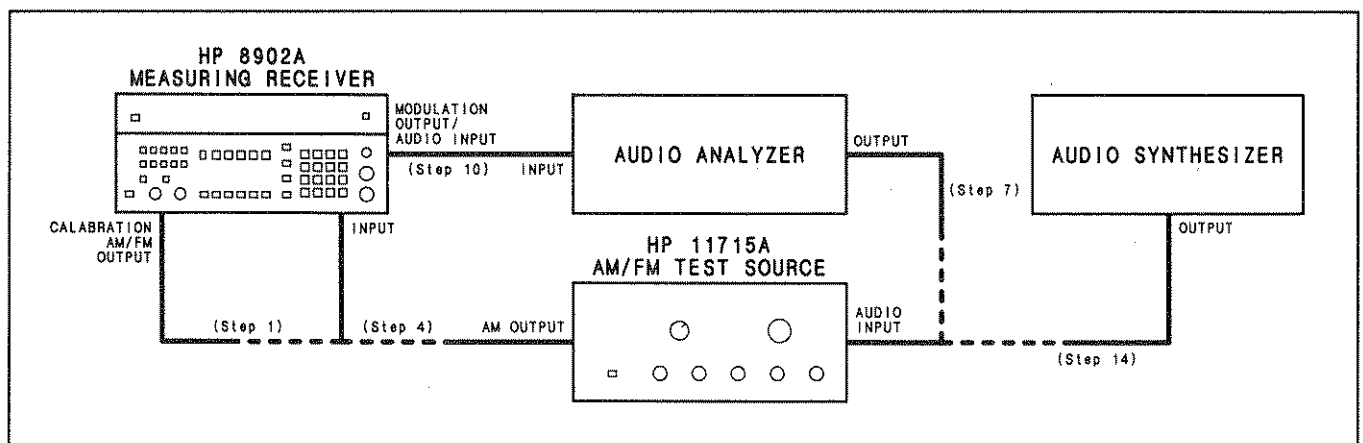

Figure 4-1. AM Performance Test Setup
- On the AM/FM test source, set the test mode switch to AM. Connect the test source AM output to the Measuring Receiver's INPUT. (See Figure 4-1. Nothing should be connected to the test source's audio input.)
- Set the audio analyzer's oscillator to 20 kHz. Connect its output to the audio input of the AM/FM test source. (See Figure 4-1.)
10. Connect the audio analyzer's input to the Measuring Receiver's MODULATION OUTPUT/AUDIO INPUT. (See Figure 4-1.) Set the audio analyzer to measure the distortion on the 20 kHz signal at the MODULATION OUTPUT/AUDIO INPUT with 80 kHz of low-pass filtering (on the audio analyzer). The distortion should be 0.3% or less (-50 dB or less).
14. Set the audio synthesizer to 1 kHz at +1 dBm. Connect its output to the audio input of the AM/FM test source. (See Figure 4-1.) Fine adjust the audio synthesizer level for a Measuring Receiver display of 80% AM.